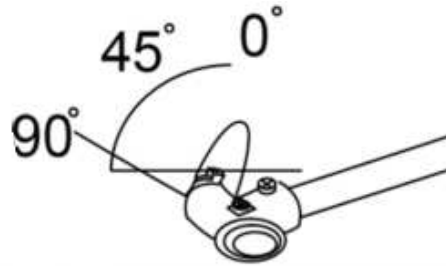

Fig. 9
- Rotate the fan head and aim the arm screw at the desired angle (There are only three angles available: 0°, 45°, 90°.They are labelled on the motor part) (Fig.9)